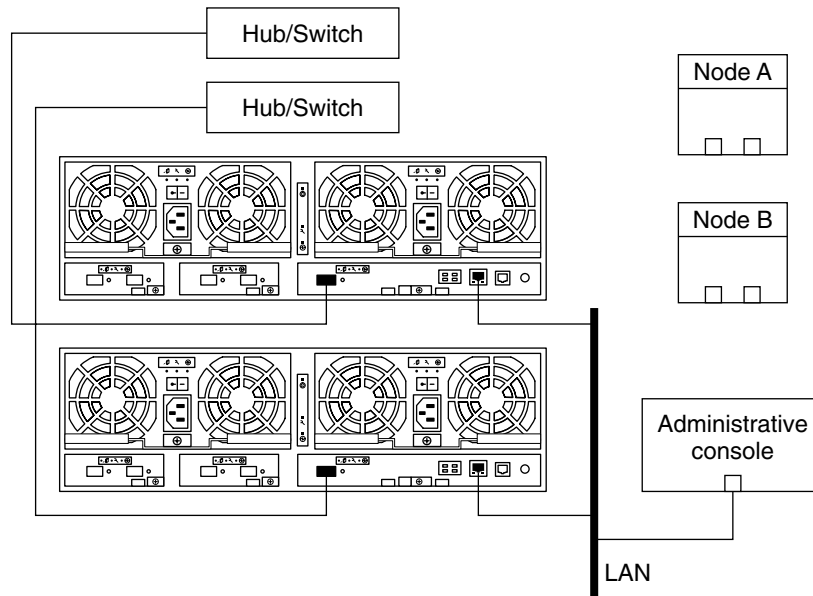

FIGURE 1-3 Adding a Single-Controller Configuration: Part I
3. **Install the media interface adapter (MIA) in storage array that you are adding, as shown in Figure 1-3.**
4. **If necessary, install gigabit interface converters (GBICs) or Small Form-Factor Pluggables (SFPs) in the FC hub/switch, as shown in Figure 1-3.**
5. **Install the Ethernet cable between the storage array and the Local Area Network (LAN), as shown in Figure 1-3.**
9. Install a fiber-optic cable between the FC hub/switch and the storage array, as shown in Figure 1-3.
Note – Figure 1-3 shows how to cable two storage arrays to enable data sharing and host-based mirroring. This configuration prevents a single-point of failure.